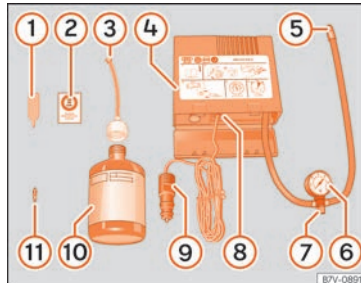

Fig. 84 Standard display: contents of the anti-puncture kit.
compartment. It includes the following components »» Fig. 84:
Screw the inflator tube »» Fig. 84 ⑤ again and check the pressure on the gauge ⑥.